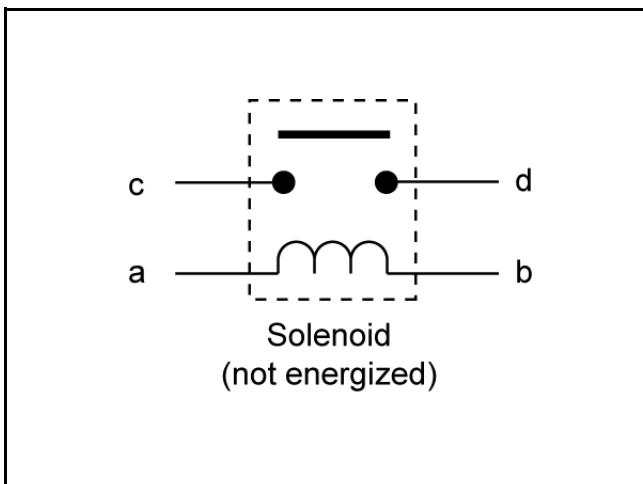

Figure 19
The solenoid has two primary parts. One is a coil of wire wrapped around an iron core. Whenever 12 volts is applied to the coil, it becomes a magnet. The other part is a bar type switch (Figure 19). Because it has a large contact area with the contact terminals it can easily handle the high current loads required by the starter motor.
2. With a multimeter (ohms setting), check to ensure that terminals "c" and "d" are open (no continuity) (Figure 19).
3. Apply +12 VDC to terminal "a" and ground terminal "b". Terminals "c" and "d" should now be closed (continuity) (Figure 19).